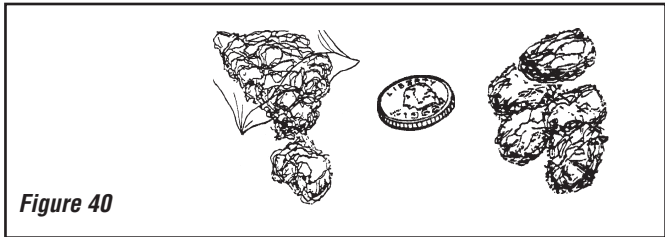
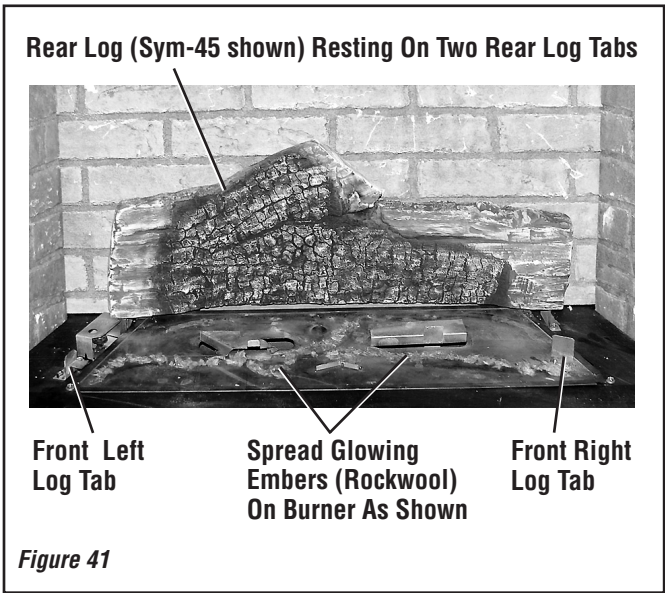

Figure 40
Figure 41
Step 2. Separate the Glowing Ember (Rockwool) into pieces about the size of a nickel (see *Figure 40*). Keep the pieces fluffed up with torn edges and not matted. Distribute these pieces over the burner as shown in *Figure 41*. Do not use more than necessary. When properly positioned, the Glowing Embers may cover the entire burner in front of the front ports. Do not place embers on main ports in front of the rear log.